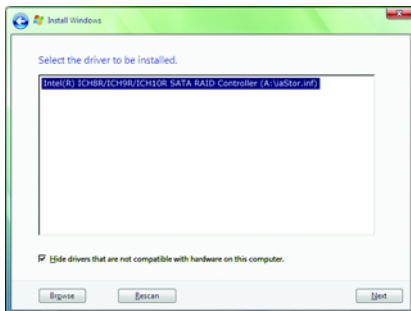

Figure 10
When a screen as shown in Figure 10 appears, select **Intel(R) ICH8R/ICH9R/ICH10R SATA RAID Controller** (Note) and press **Next**.
(Note) The item displayed in Figure 10 will be shown as **Intel(R) ICH10R SATA AHCI Controller** when the SATA controllers are set to AHCI mode.